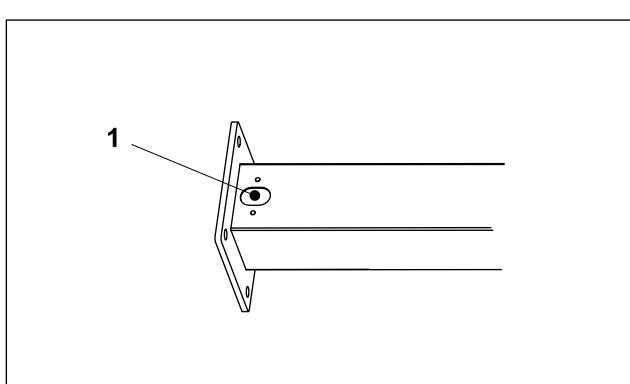

Fig. 5 Cable entry into the column
5. Attach a cable protecting sleeve (separate parts set) to the cable entry opening (Fig. 5/1).
- If equipotential bonding of the column is required, a separate equipotential bonding line must be routed to the column. This also applies to additional lines required for an optional external disable/enable device. These lines must also be fed through the cable entry (Fig. 5/1).